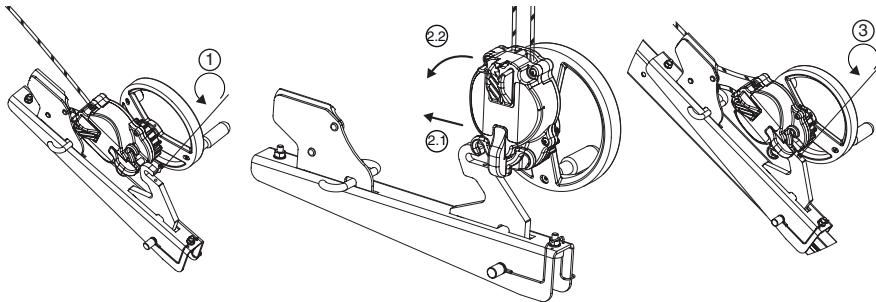

Fig. 8
6.3.4. Derope™ descender UP R (Figs. 8, 9 and 10)
The Derope™ UP R descender must be secured to the leg of the Tractel® tracpode as shown in Fig.8. Any other mounting position on any other point of the Tractel® tracpode is strictly prohibited. To use the Derope™ UP R descender on one of the 3 legs of the tracpode tripod, the tripod must be equipped with an idler pulley at the upper part, or with two pulleys if another device is implemented on the same tracpode tripod (blocfor™ automatic return fall-arrest device or caRoI™ winch).
1. Unscrew the screw securing the hook by which the bracket is fastened to the Derope™ UP R descender (Fig. 8,1).
2. Install the Derope™ UP R descender on the fastening hook (Fig. 8, 2.1 – 2.2).
3. Screw in the locking screw to prevent the unit from separating from its bracket (Fig.8, 3) and check that it is properly positioned and tightened.